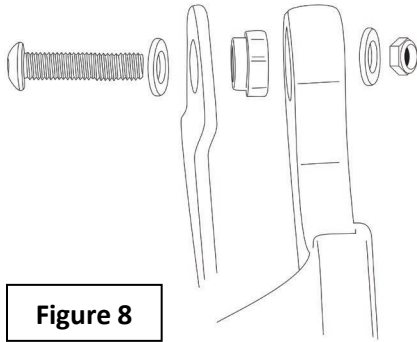
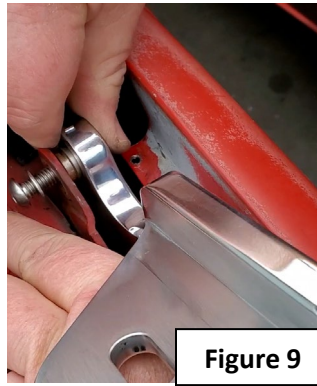
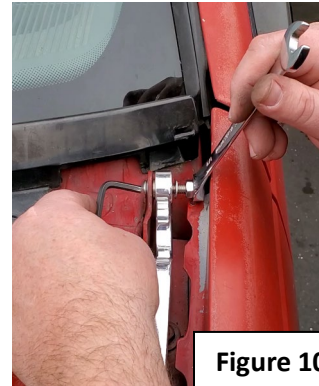

Figure 8
Figure 9
Figure 10
- MS149-29 HP L (1)
- 5/16-18 X 1" SS BHCS (1)
- 5/16" AN Washer (2)
- 5/16" SS Thin Ny-lock Nut (1)
- 5/16" SS Spacer (1)
See Figure 8 take (1) 5/16" AN Washer and install on the 5/16-1" SS BHCS then slide the bolt through the hood plate bearing towards the engine compartment. Take the SS spacer and slide it over the exposed threads of the bolt with the shoulder going towards the factory hinge mount (Figure 9) slide this assembly through the hole in the hinge mount. Take the remaining 5/16" AN washer and slide it over the rest of the bolt sticking through. Finally install the 5/16" SS Thin Ny-Lock Nut and tighten the whole assembly with a 3/16" Allen wrench and a 1/2" end wrench (See figure 10).